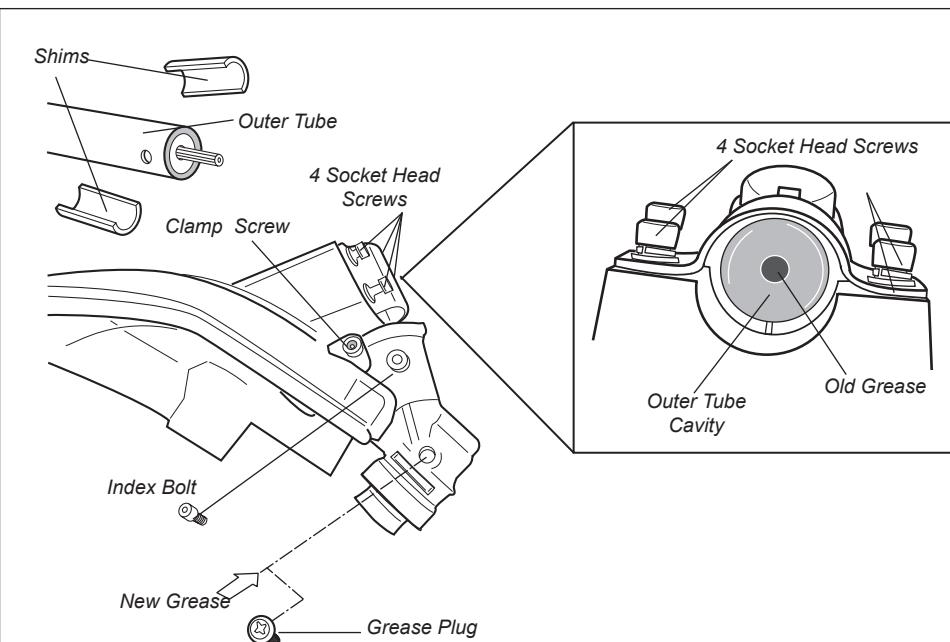

Figure 23
- To perform this operation, first remove the gearcase and debris shield from the outer tube as follows. See Figure 23.